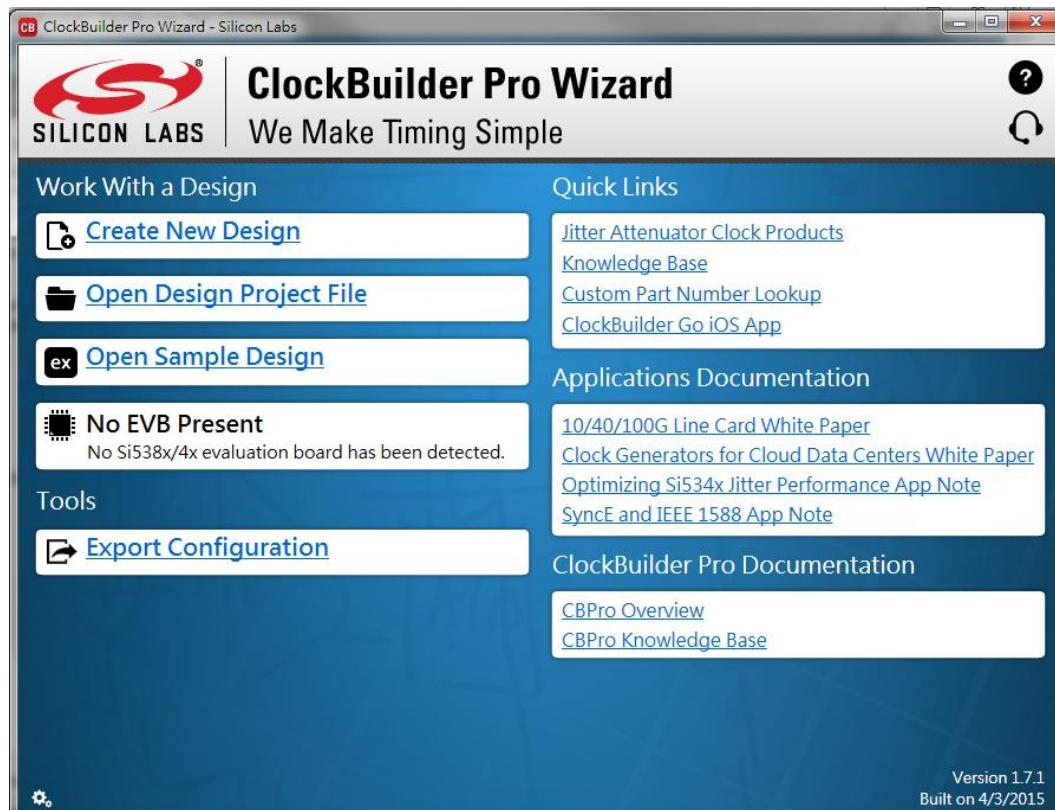

Figure 5-6 ClockBuilder Pro Wizard
1. Firstly, download ClockBuider Pro Software (See **Figure 5-6**), which is provided by Silicon Labs. This tool can help users to set the Si5340's output frequency of each channel through the GUI interface, and it will automatically calculate the Register parameters required for each frequency. The tool download link: